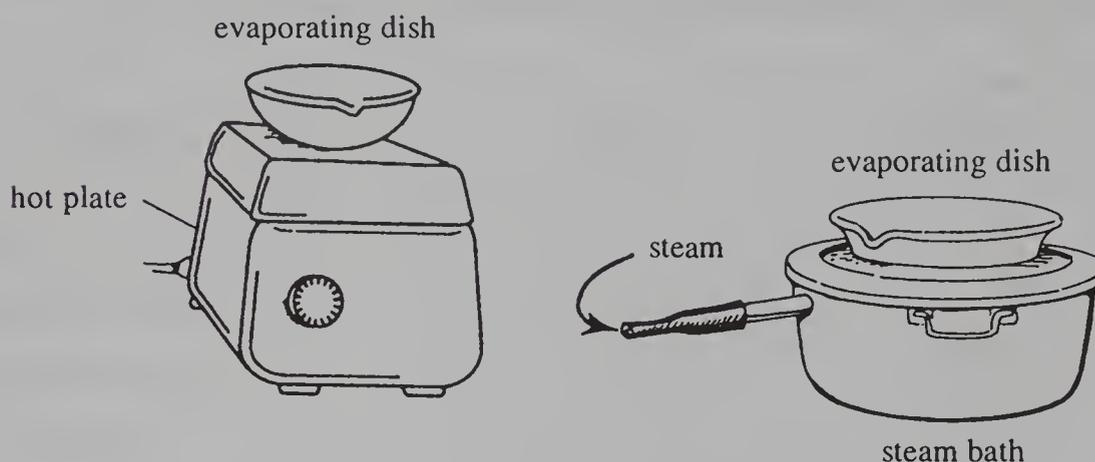

Figure 28-1. Two Methods for Evaporating Off Acetone
**Acid-zinc(II) solution:** Mix and save for combining with waste from step 11.
**Acid-zinc(II) solution:** Combine with the waste solutions from steps 8 and 10. Add phenolphthalein and neutralize with 6 M NaOH (first appearance of pink color). Dispose in a waste bottle labeled *heavy metals—solutions*.
14. Evaporate the remaining acetone by placing the evaporating dish on a hot plate or on a steam bath as illustrated in Figure 28-1. Ensure that the evaporation is as complete as possible by stirring the solid